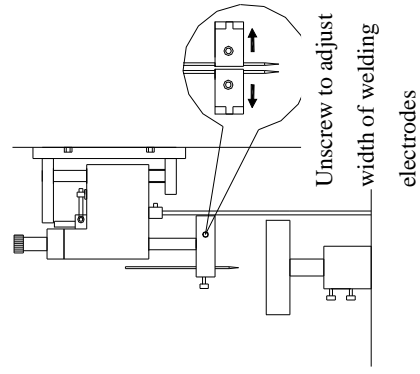

Fig.7: Adjust Width of Welding Electrode
3. Adjust the width of welding electrodes (See Figure 7):
2. Adjust the width of welding electrodes (See Figure 7):